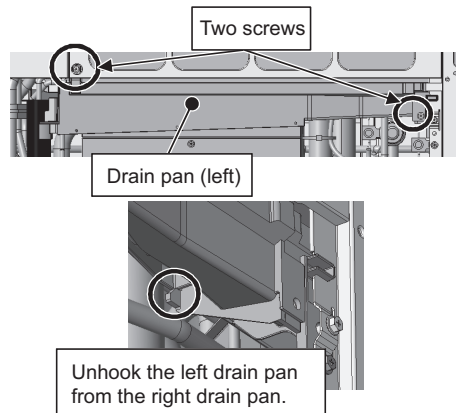

Figure 4
- (7) Remove the two cable straps holding the weak electrical wiring and the two cable straps holding the strong electrical wiring from the control box. (See Figure 4.)
- (3) Remove the left drain pan by unscrewing the two screws. (See Figure 4.)